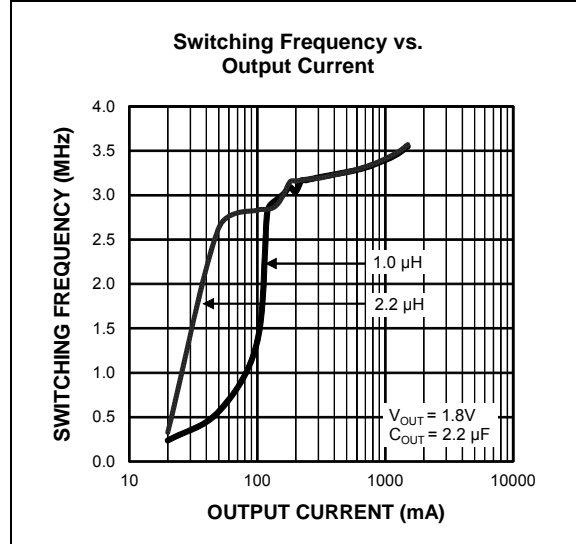

FIGURE 5-3: *SW Frequency vs. Output Current.*
As shown in Equation 5-5, the load at which the MIC23156 transitions from HyperLight Load mode to PWM mode is a function of the Input Voltage (V_{IN}), Output Voltage (V_{OUT}), Duty Cycle (D), Inductance (L) and frequency (f). As shown in Figure 5-3, as the output current increases, the switching frequency also increases until the MIC23156 goes from HyperLight Load mode to PWM mode, at approximately 200 mA. The MIC23156 will switch at a relatively constant frequency, around 3 MHz, once the output current is over 200 mA.